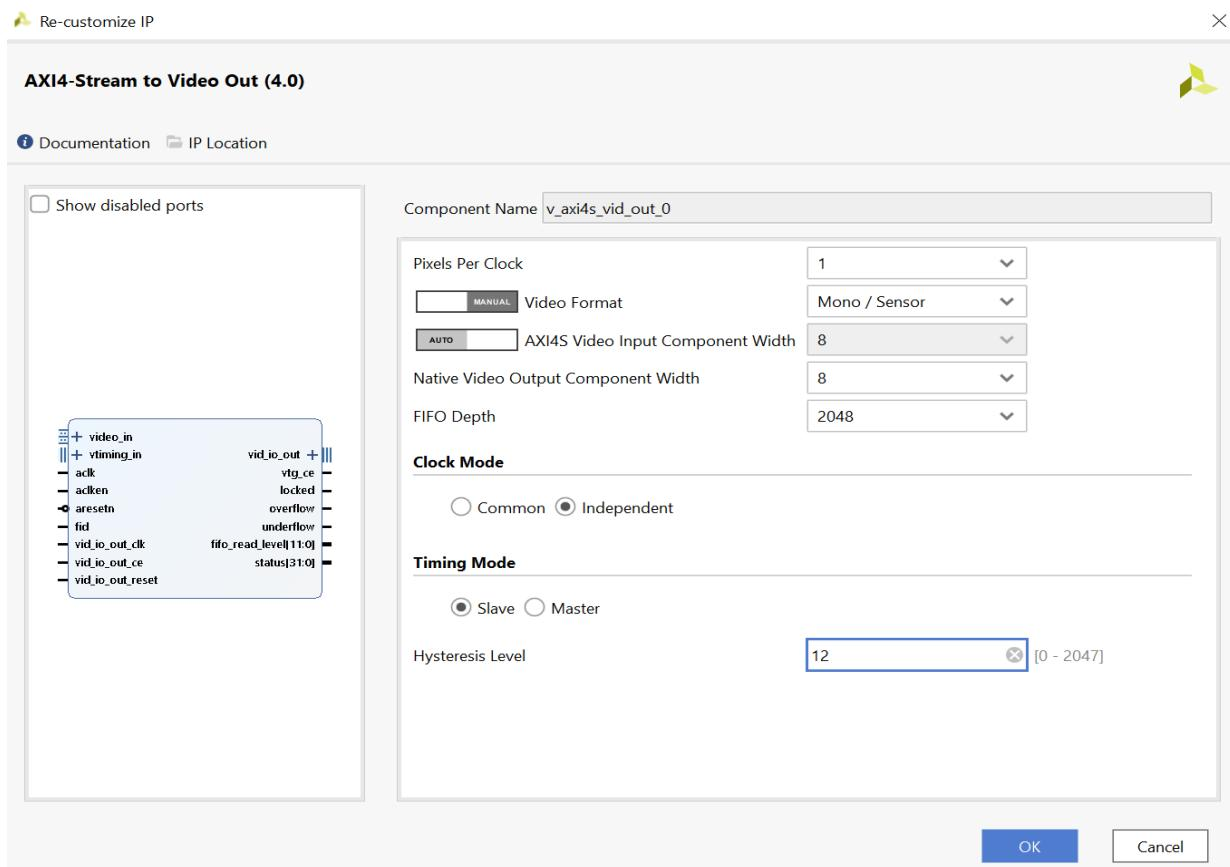

Figure 10. Configuration for the “AXI4-Stream to Video Out” component
3. Include a “AXI4-stream to Video Out” component and configure it ad depicted in figure 10. Select a monosensor mode to deal with grey level pixels. Select a pixel per cycle and 8-bits per sample. Use independent clock to manage the axi4 clock separately to the video one. Select a 2048 pixels fifo memory. Explain why the component had to be configure in SLAVE mode?